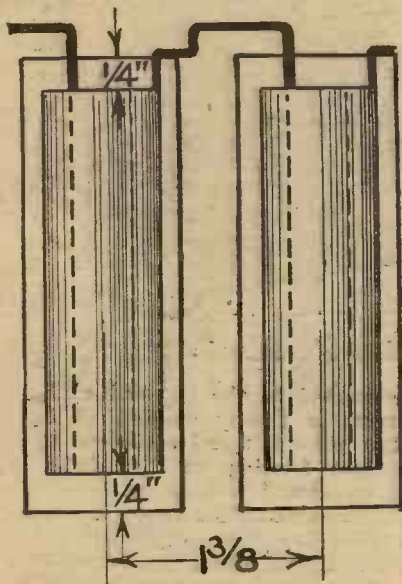

Fig. 5.—A sketch showing the plates arranged in the glass tubes.
The portions A and C must be bent round mandrils to a cylindrical form, the diameter of the larger one being just over  $\frac{3}{4}$  in. and of the smaller one just over  $\frac{3}{8}$  in. As it is essential to present the largest possible plate surface to the electrolyte, the writer has found it a distinct advantage to serrate the surfaces of the positive and negative plates. This can easily be accomplished if the A and C portions are separately gripped between the jaws of a bench vice. To provide adequate pressure between the vice jaws, a lever, such as a 3-ft. length of conduit or metal piping, should be slipped over the vice handle, and the lead can then be squeezed sufficiently to leave the jaw serrations on the lead surface. With the aid of a wooden mallet, the plates can now be bent round the mandrils, only light taps being given with the mallet, so as not to damage the previously prepared surface of the plates. The larger cylinder will become the positive plate of one cell and the smaller cylinder the negative plate of the adjoining cell, and the lead connecting strip B must now be bent in the form indicated in Fig. 2. The bend serves the purpose of supporting the two plates on the edge of the container, and gives the plates a  $\frac{1}{4}$  in. clearance at the base of the container, and will prevent any sediment which may settle at the base from causing a short-circuit. (See Fig. 5.)
from the top of the cylinder A. This strip will form a connection to the positive battery terminal on the outside of the box. The bend should still be made, and this plate with the lead strip extension can be inserted in the glass tube (1) (see Fig. 5). Now add the separator, and take one of the units which have been made to the form shown in Fig. 2, and insert the smaller cylinder in the centre of the